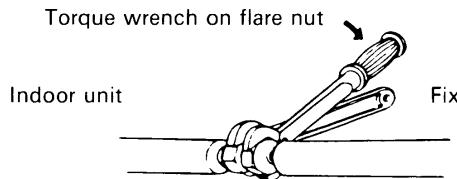

Fig. 4
2. Flare nut on large dia. tube should be torqued to 510—550 lbs. in. Flare nut small dia. tube should be torqued to 130—170 lb. in. Fig. 4